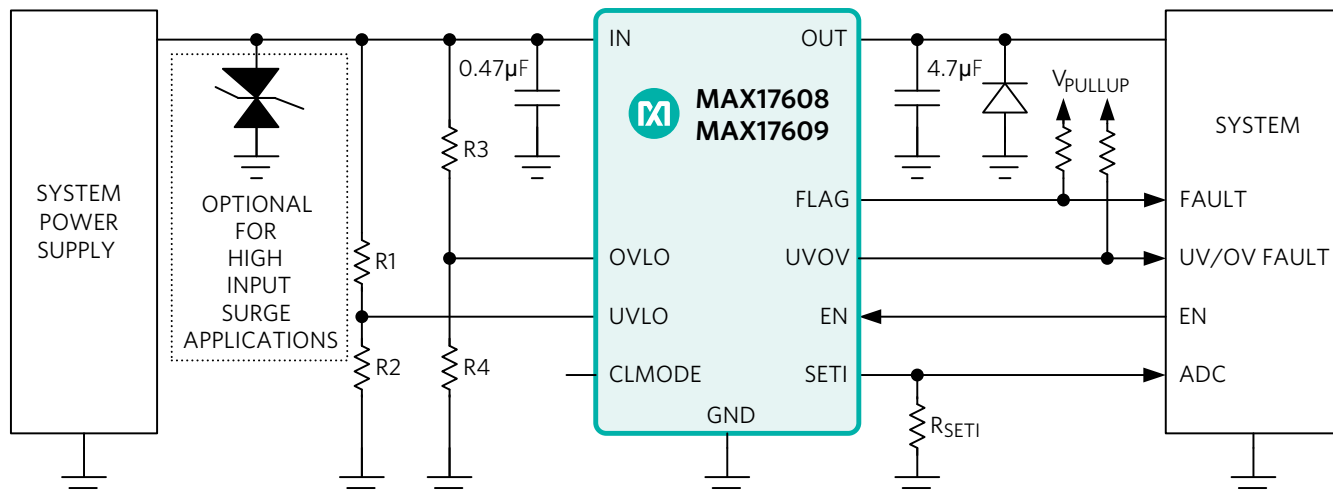

Figure 9. MAX17608 typical application schematic.
**Figure 9** illustrates a modern protection IC from Maxim's Olympus family of devices, the **MAX17608** 60V/1A current limiter. This highly integrated IC packs all necessary protections into a single, tiny 3mm x 3mm, 12-pin TDFN package. This device is very simple to use, while providing a rugged solution to the asset-tracking device. Some of the MAX17608 features are: